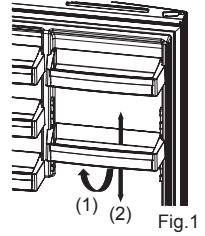

Fig.1
Lift up front of the shelf (1) and move up or down adjustable door shelf (2) with both hands (Fig 1)